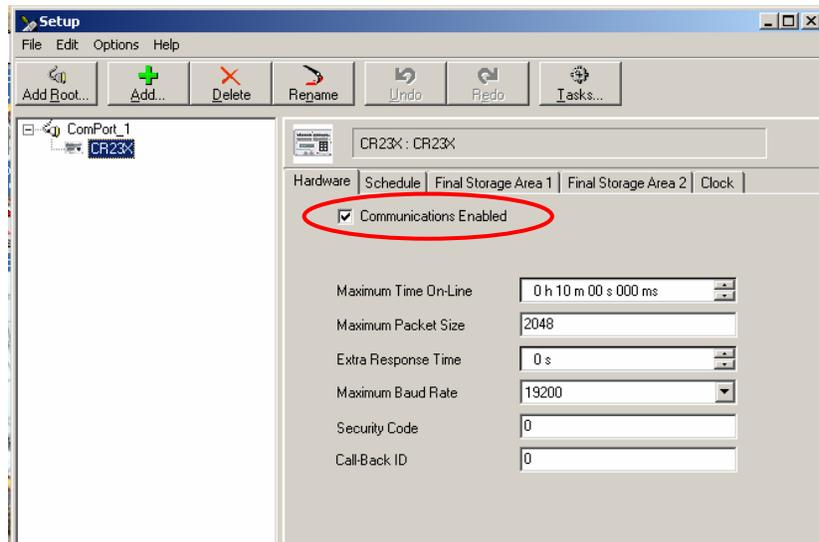

Figure 15
- a) Under the **Hardware** tab, check the **Communications Enabled** box (see Figure 15).